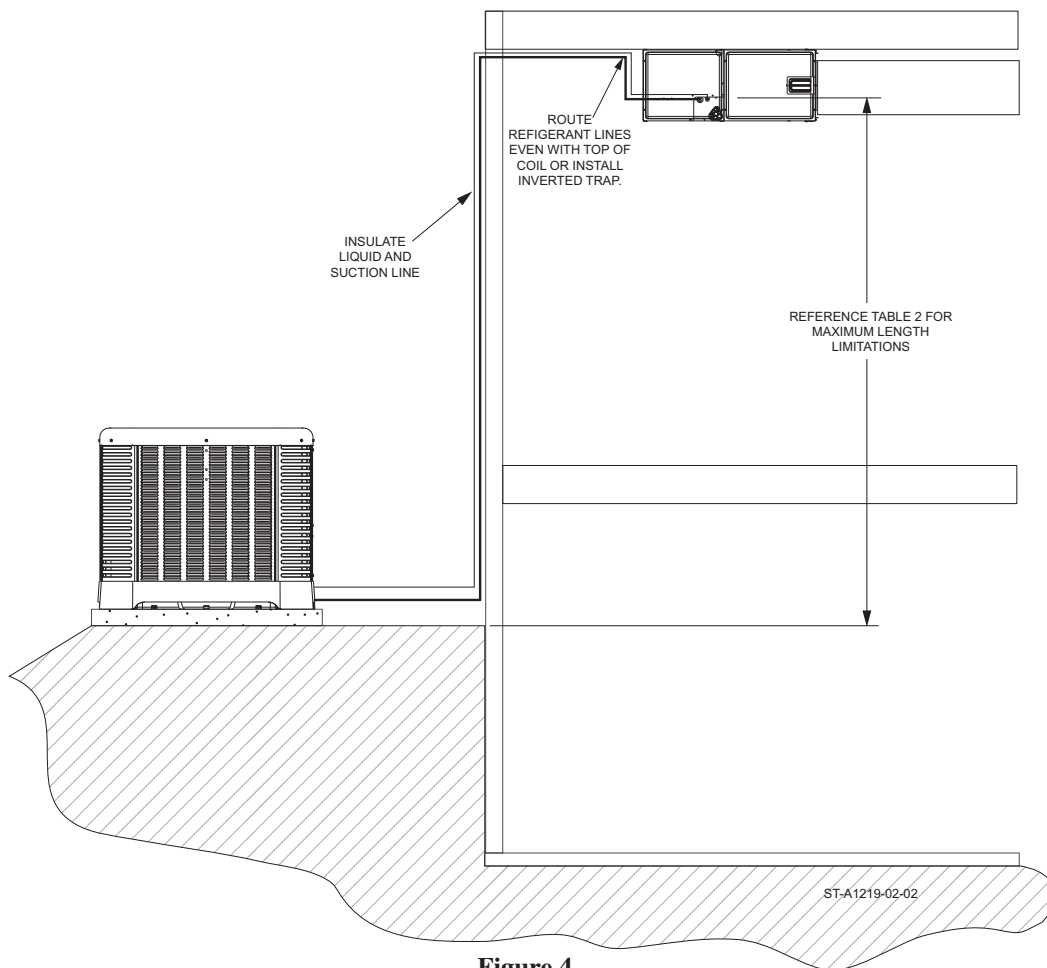

Figure 4
- Refrigerant lines should be routed even with the top of the ID coil or an inverted trap is to be applied (refer to Figure 4).